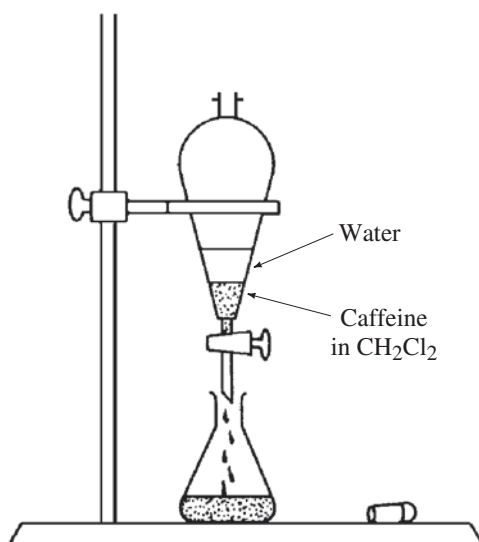

Figure 31.2
6. Return the separatory funnel to the ring clamp, remove the stopper, and allow the aqueous layer to separate from the dichloromethane layer (Figure 31.2). You should see two distinct layers form after a few minutes, with the dichloromethane layer at the bottom. Sometimes an emulsion may form at the juncture of the two layers. The emulsion often can be broken by gently swirling the contents or by gently stirring the emulsion with a glass rod.
1. Look at Figure 31.2 in the **Procedure** section. Note the position of the layers in the separatory funnel. What does this say about the relative densities of the water and the dichloromethane?